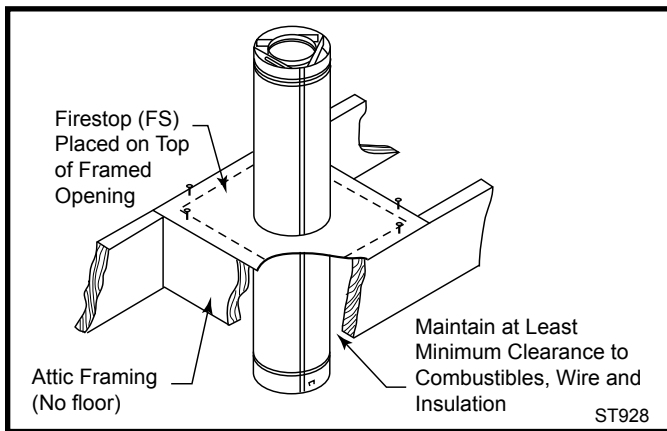

Figure 38 Firestop spacer.
DIRECT-TEMP must be firestopped wherever it passes through floors, ceiling or walls. The only location where a firestop is not required is at the roof level. Both vertical support components with trim plates provide for firestopping. The wall thimble also acts as a firestop. at other locations, a firestop spacer (FS) should be installed. In the attic the firestop should be placed on top of the joist framing to prevent debris from falling into the joist framing. (Figure 38)